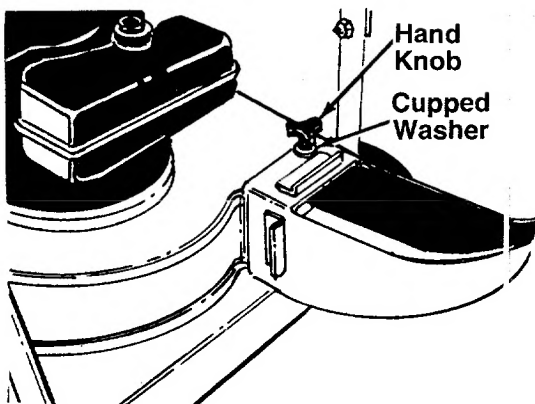

FIGURE 7.
2. Secure air duct with hand knob and cupped washer. Cupped side of washer must be against the air duct. See figure 7.